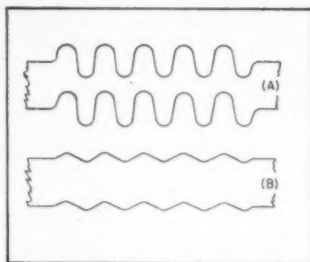

Fig. 2. (A) High-frequency signal recorded at 100% modulation on constant-amplitude basis. (B) Same signal recorded on constant-velocity basis.
tude" type of recording. At high frequencies, however, the stylus would have to make very sharp reversals, as shown at (A) in Fig. 2, with a resultant high velocity. As a matter of fact, it is doubtful if any stylus could follow such a groove at 10,000 cps. At constant velocity of stylus-tip movement, the groove would be more like (B) of Fig. 2. Practically, therefore, the groove is most usually cut with constant amplitude up to some intermediate frequency—generally somewhere between 250 and 800 cps—and at decreasing amplitude but at constant velocity above this frequency, which is known either as the transition frequency or the turnover frequency.